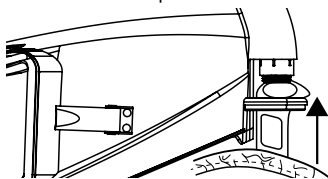

Figure 11
3. Line up plastic tab on the cape over the breathing tube connection (Figure 11).